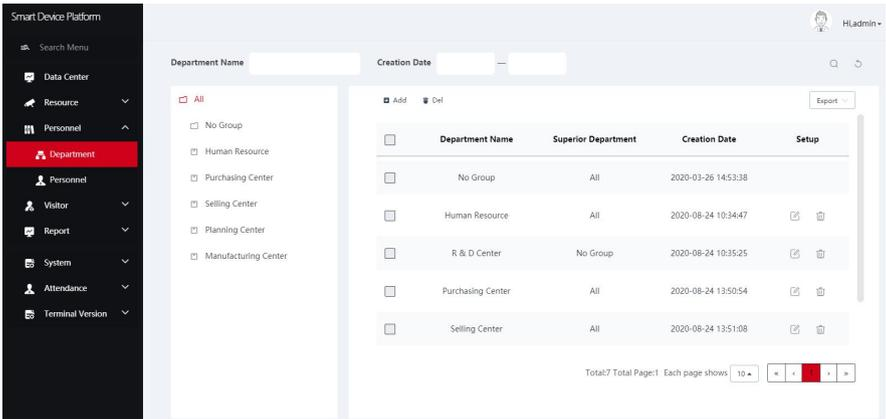

Figure 5-37
Step 1: In the smart device platform interface,click "Personnel→Department" to enter the organization management interface, as shown in Figure 5-37 below.